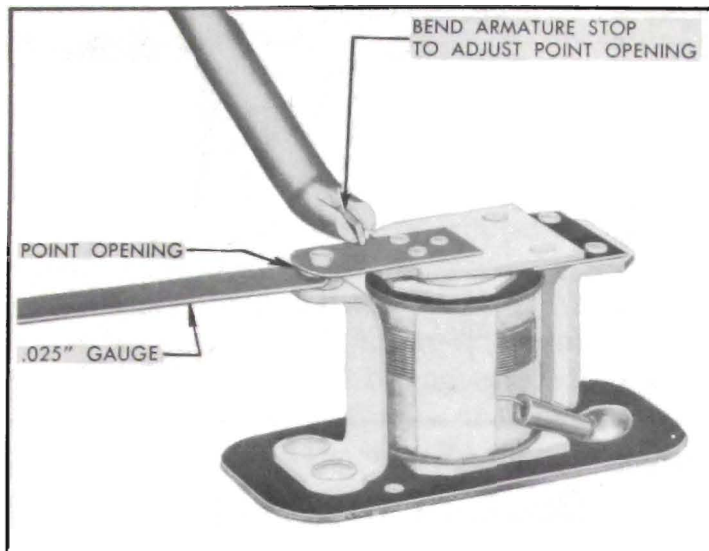

Figure 10-59—Relay Contact Point Adjustment
3. With armature free, check contact point opening, using .025" feeler gauge. Adjust point opening to .025", if necessary, by bending the upper armature stop. See figure 10-59.